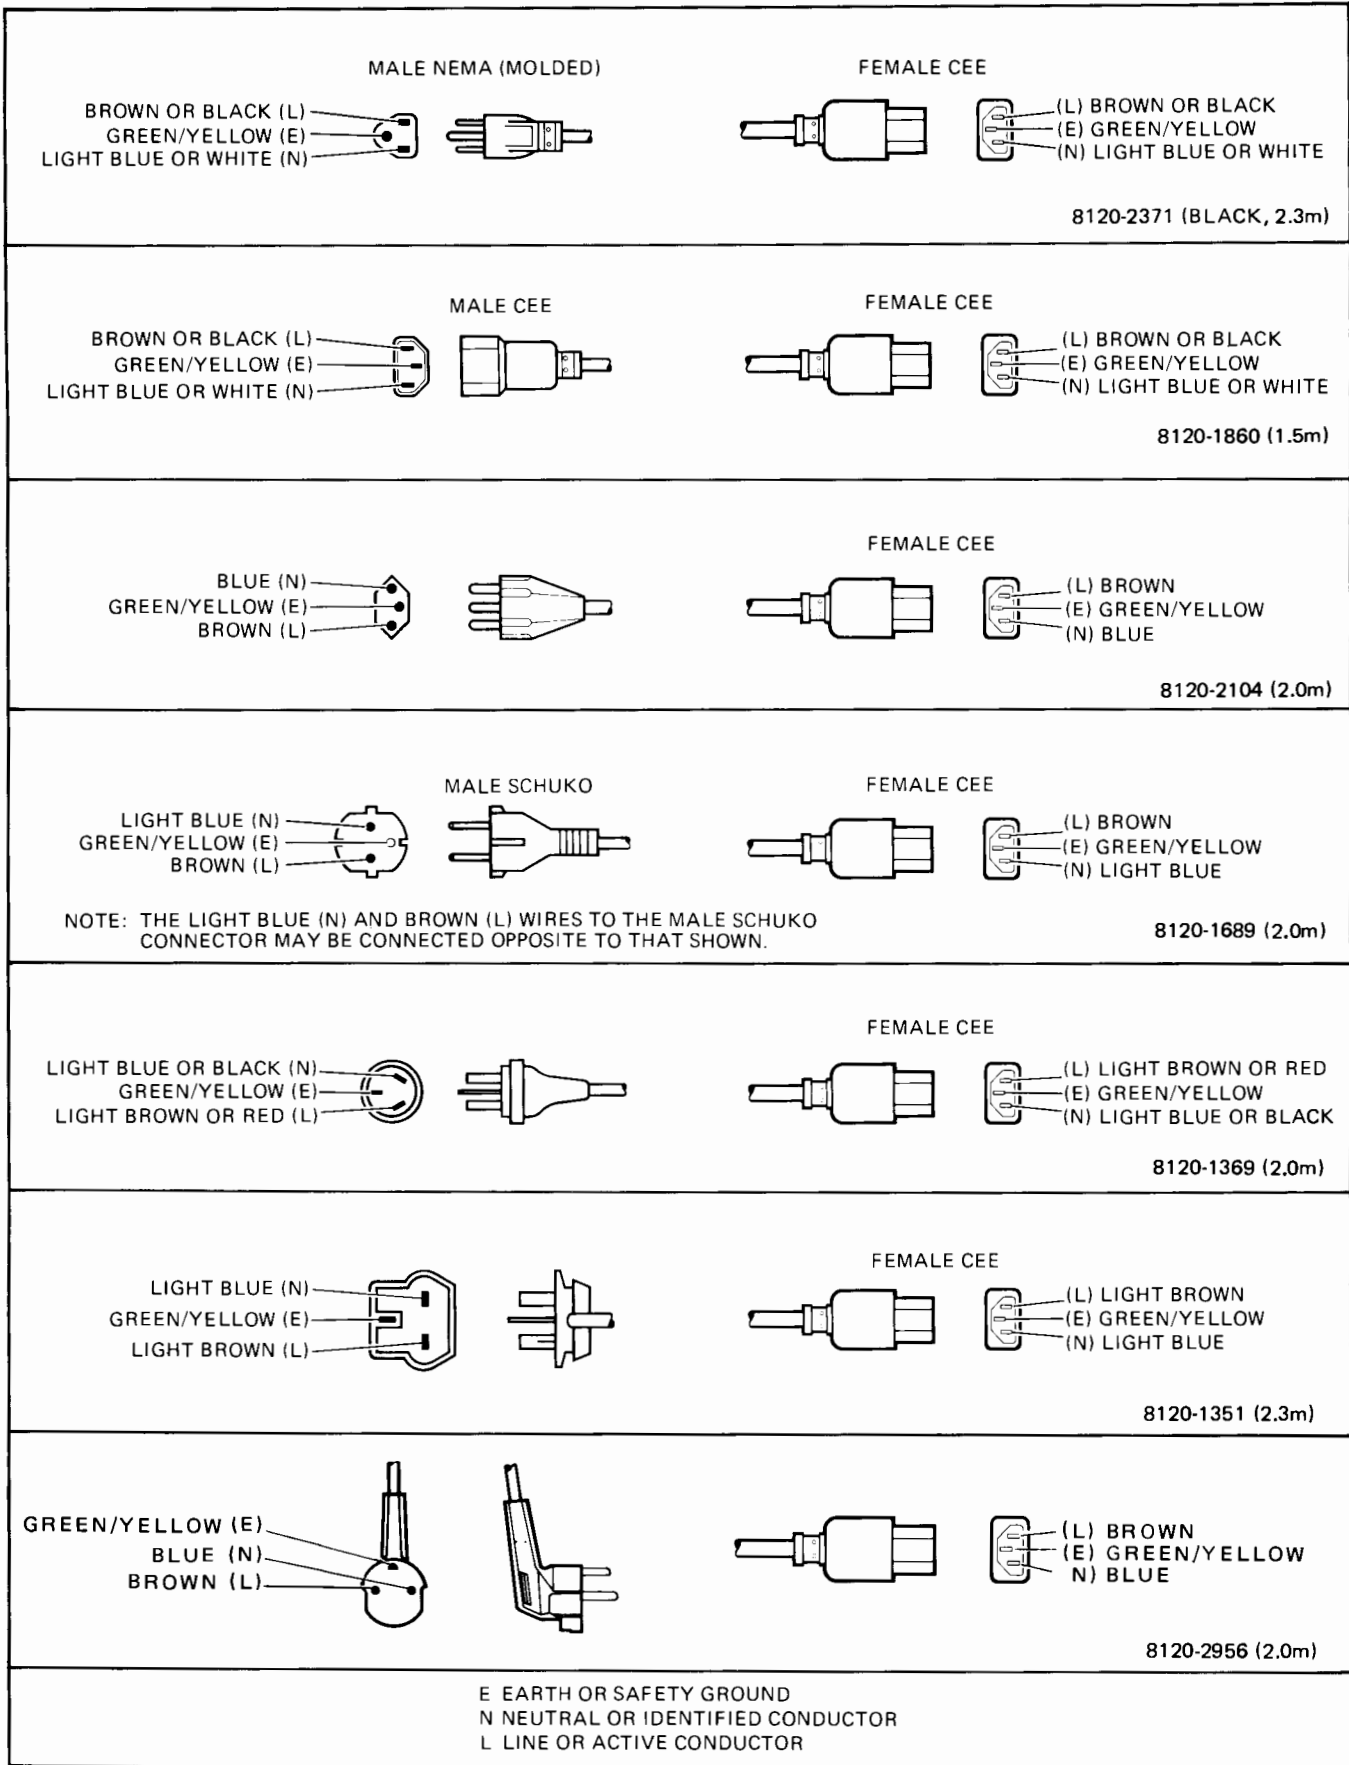

Figure 2-4. AC Power Cord Sets
- (7) Dress power cable conductors within power distribution unit and tighten cable clamp on cable jacket.
- (8) Replace "WARNING" cover on power panel assembly.
- (9) Connect power cable to a suitable mains power source.
- (10) Set circuit breaker on power panel assembly to ON.
b. The power panel assembly, part no. 29425-60003, is supplied with a standard 120 Vac power cord. For the Option 015 power panel, part no. 29425-60004, an appropriate power cord is supplied with the disc drive. The various Option 015 power cords available are shown in figure 2-4. To attach a power cord, proceed as follows:
- (2) Plug the female end of the power cord into the ac power inlet on the power panel assembly.
- (3) Connect power cable to a suitable mains power source.
- (4) Set circuit breaker of the power panel assembly to the ON position.
c. The power panel assembly, part no. 29425-60009, is supplied with a standard 120 Vac power cord. For the Option 015 power panel, part no. 29425-60010, an appropriate power cord is supplied with the disc drive. The various Option 015 power cords available are shown in figure 2-4. To attach a power cord, proceed as follows:
- (1) Set POWER switch on the power panel assembly to 0 (off) position.